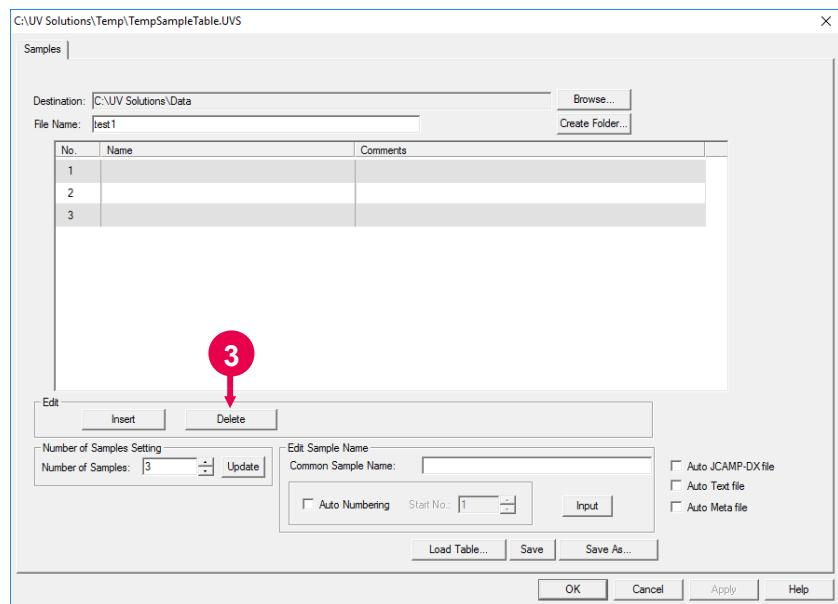

Fig. 4-29
- (2) For adding a row after the last row of the present sample table, click the **Insert** button.
- (3) For deleting an unnecessary row as shown in Fig. 4-29, click the No. cell of that row to make it active. Then, click the **Delete** button.